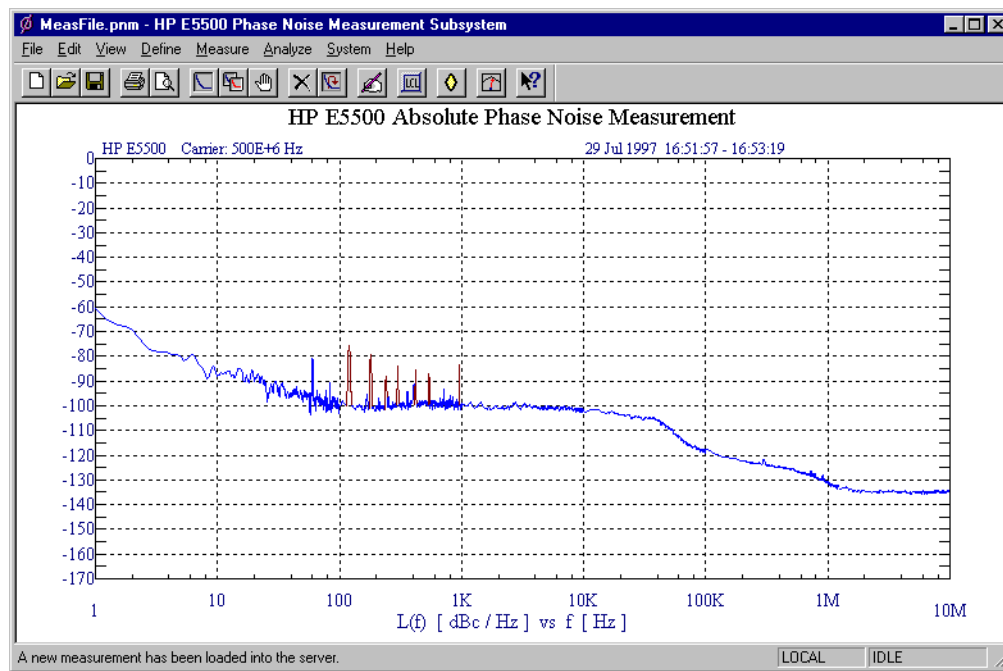

Figure 3-2 Phase Noise Measurement Subsystem Dialog Box
- 3 The phase noise measurement subsystem dialog box (Figure 3-2) appears. Your dialog box may look slightly different.